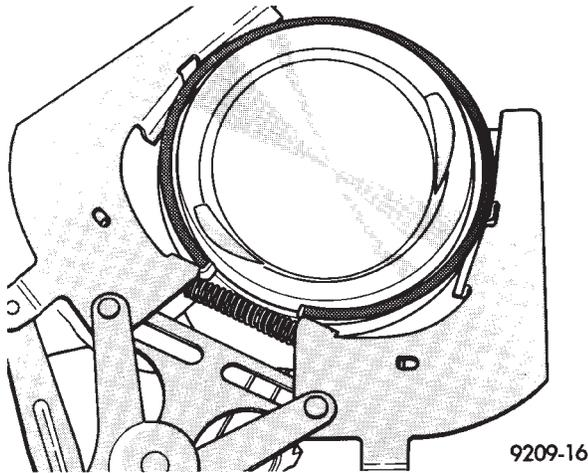
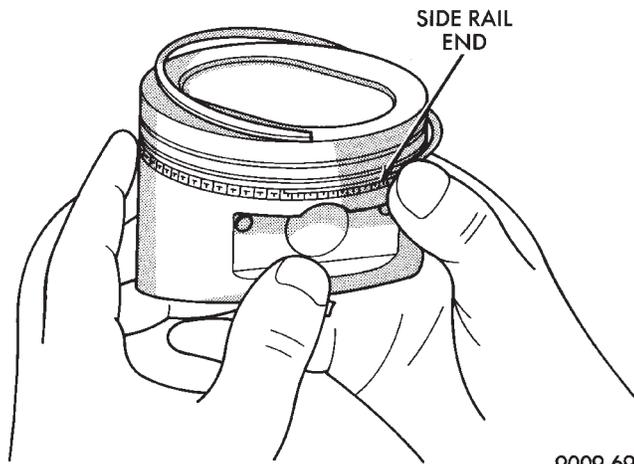

Fig. 8 Piston Rings—Removing and Installing
Fig. 12 Installing Side Rail
- (1) ID mark on face of upper and intermediate piston rings must point toward piston crown.
- (2) Using a suitable ring expander, remove upper and intermediate piston rings (Fig. 8).
- (3) Remove the upper oil ring side rail, lower oil ring side rail and then oil ring expander from piston.
- (4) Clean ring grooves of any carbon deposits.
(2) Install the side rail by placing one end between the piston ring groove and the expander. Hold end firmly and press down the portion to be installed until side rail is in position. **Do not use a piston ring expander.** (Fig. 12).
(3) Install upper side rail first and then the lower side rail.
(4) Install No. 2 piston ring and then No. 1 piston ring (Fig. 8).